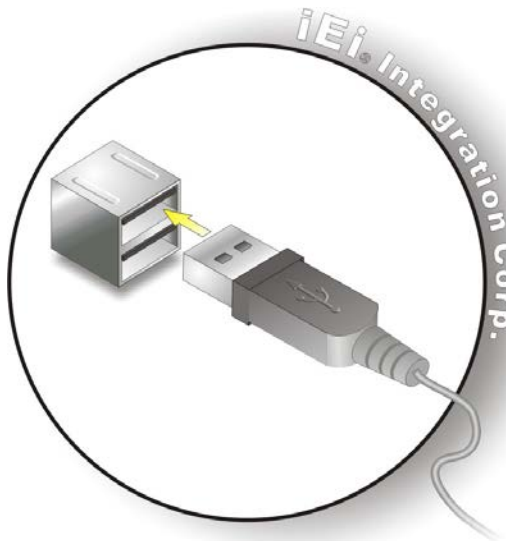

Figure 3-21: USB Device Connection
Step 2: Align the connectors. Align the USB device connector with one of the connectors. See **Figure 3-21**.